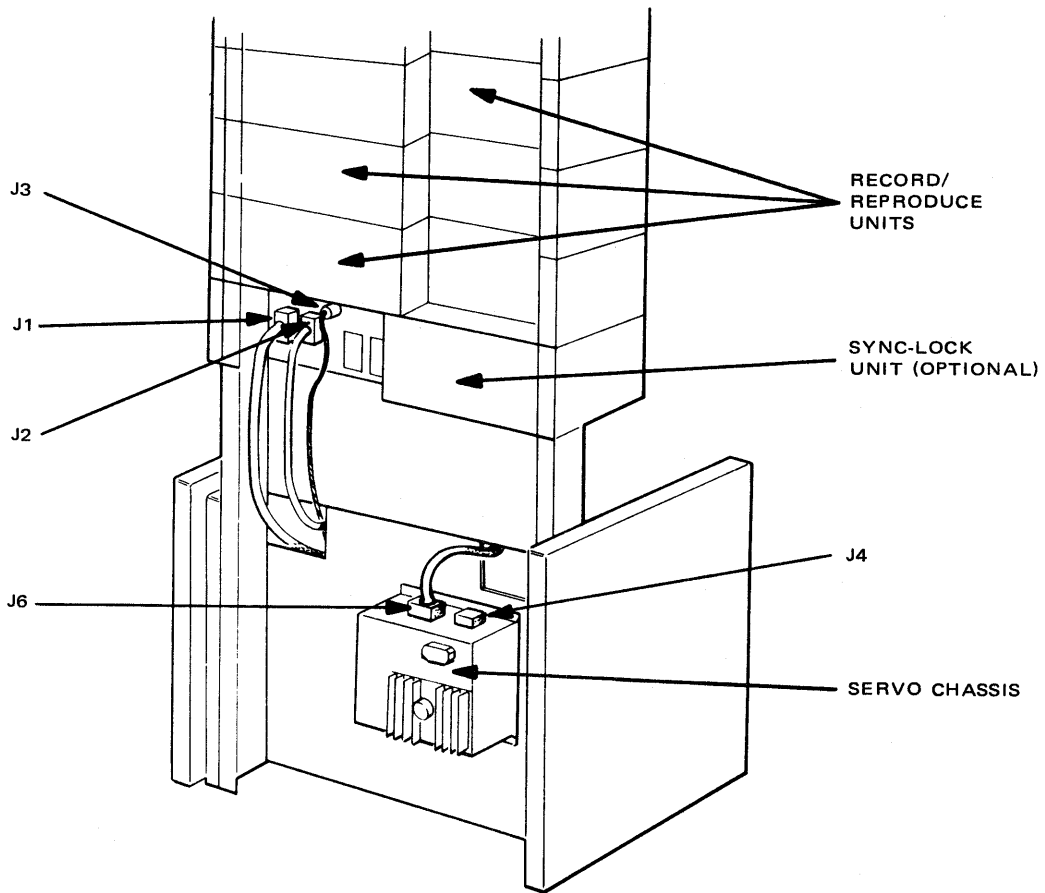
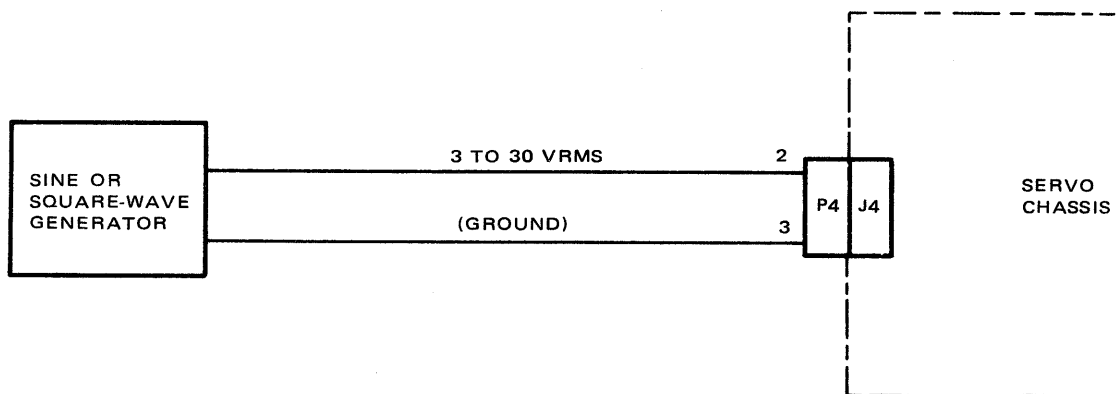

Figure 3-3. Servo Chassis Location
Figure 3-4. Variable Speed Operation
2. Remove the servo printed wiring assembly (Figure 3-2) from the servo chassis (Figure 3-3).
The use of the dummy plug in J4 of the servo chassis (Figure 3-3) causes the capstan servo to operate with a fixed reference frequency of 9.6 kHz. To operate the system at variable speeds, remove the dummy plug from J4 and connect a sine or square wave generator having an output of 3 to 30 Vrms across pins 2 and 3 (ground) of a similar plug. Refer to Figure 3-4.